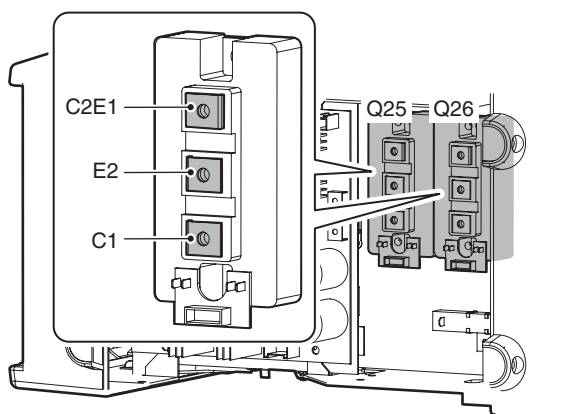

Figure 11-17: Tester checkpoints in the Q25-Q26
- 3) Refer below Table 11-8 and Figure 11-17 for the checkpoints on Q25-Q26.